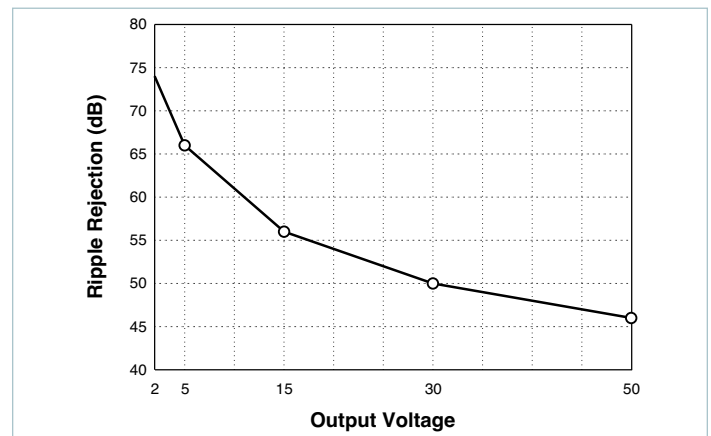

Figure 9.17 — Converter ripple rejection vs. output voltage (typical)
**Determining the Ripple on the Output of the DC-DC Converter:** Figure 9.17 is used to determine the ripple rejection of the DC-DC converter and indicates a ripple rejection of approximately 60dB for a 12V output. Since the ripple on the bus voltage is 12VAC and the ripple rejection of the converter is 60dB, the output ripple of the converter due to ripple on its input (primarily 120Hz) will be 12mVp-p.